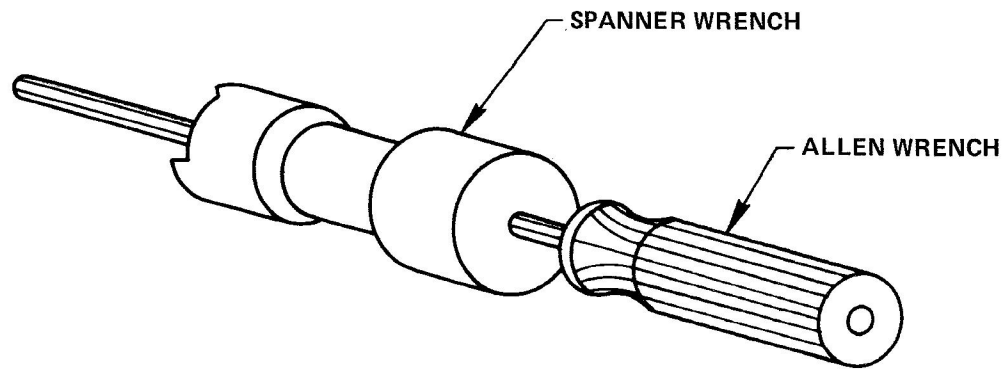

Figure 3-10: Installation/Removal Tool
- o Use the installation/removal tool to tighten the nut (Figure 3.10). Hold the Allen wrench handle to keep the spindle from turning while tightening the nut CCW with the spanner.